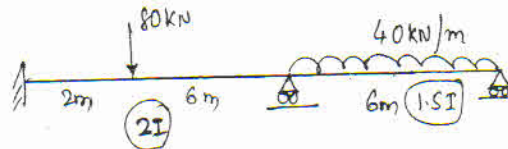

Fig Q7
- 7 Analyse the continuous beam shown in Fig Q7 using stiffness matrix method. Sketch BMD. (20 Marks)